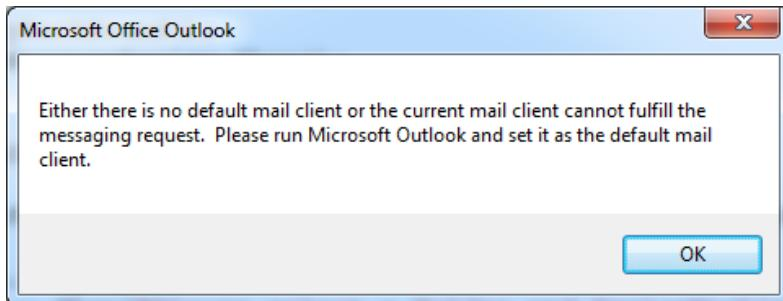

Figure 1: How to Hard Reset your MMS7000 device
3. Reset the MMS7000 by pressing and holding both the power button and the corresponding button on the other side of the keypad (see Figure 1: How to Hard Reset your MMS7000 device, below) for ~3 seconds until the display turns white, then release the buttons and waiting for the reboot process to complete. The Profiler App will automatically restart and the Profiler should now be ready for use.